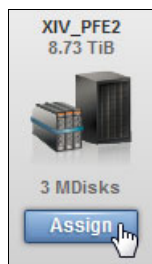

Figure 2-18 Assigning MDisks to include in the SAN Volume Controller pool
4. Click **Assign** to assign the three MDisks to a pool, as shown in Figure 2-18.